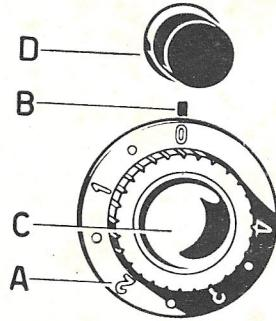

Fig. 14
The length of stitch is regulated by means of knob «C» (Fig. 14) on which is the graduated scale «A» showing the various stitch lengths from 0 to 4. In order to set a certain length of stitch, turn knob «C» until the corresponding number on scale «A» is facing the white alignment mark «B» on the machine. Of course the length of the stitch is increasing from 0 (minimum length) to 4 (maximum length).
- Push button «D» (Fig. 14) as far as it will go.